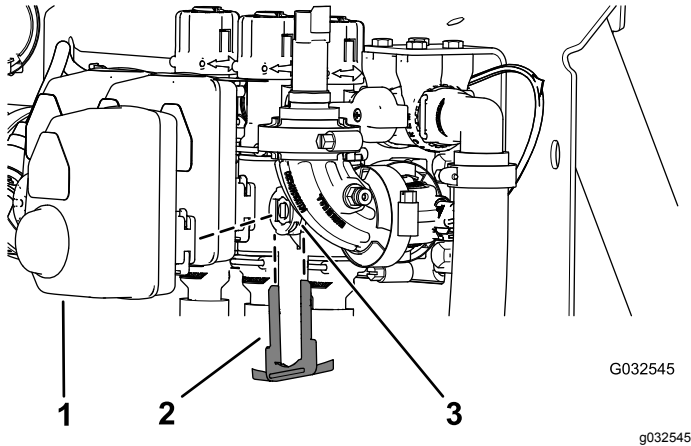

Figure 99
2. Remove the retainer that secures the actuator to the manifold valve for the section valve or agitation valve (Figure 99).